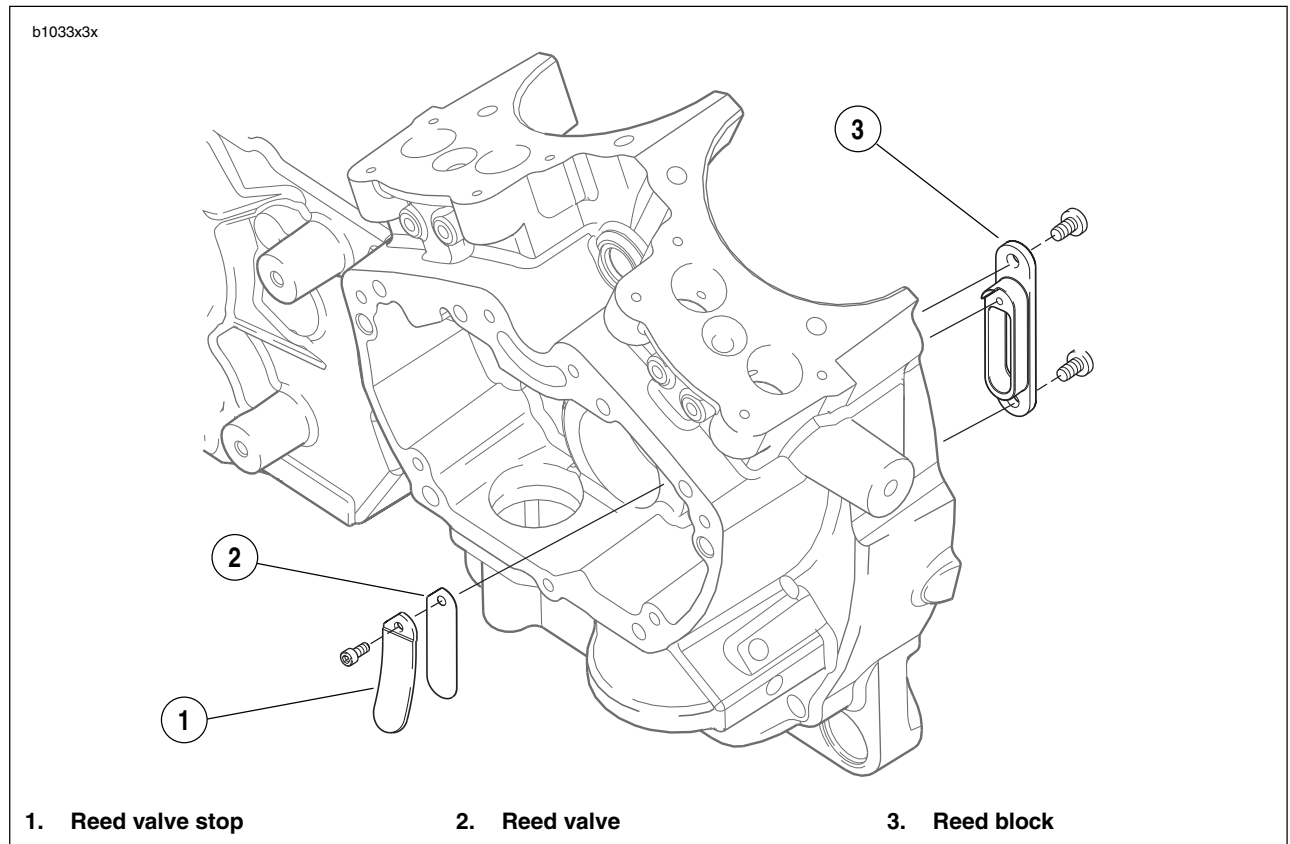
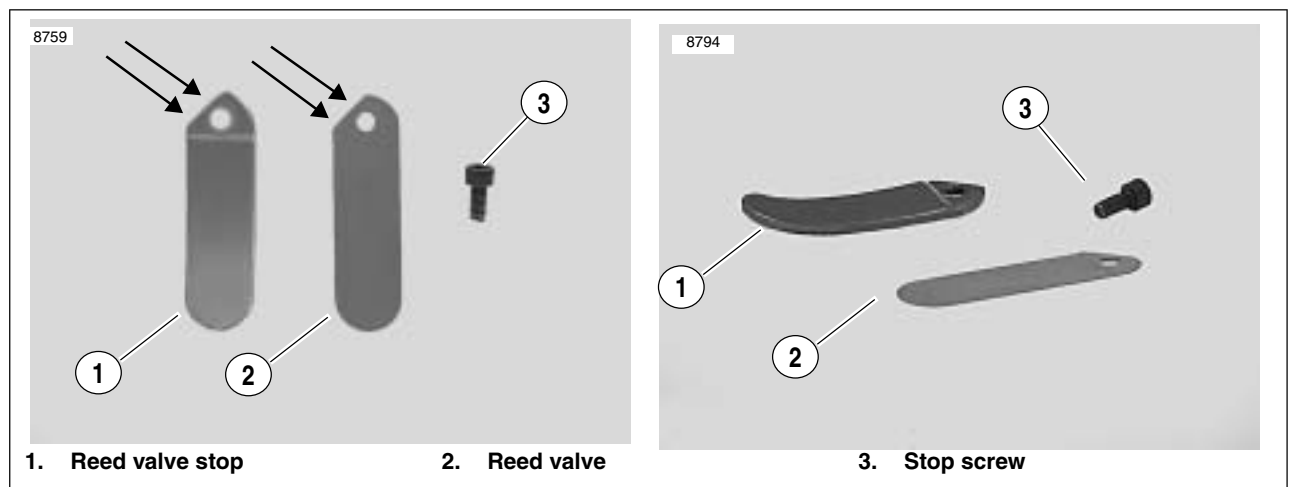

Figure 3-114. Reed Valve Assembly
Figure 3-115. Reed Valve Stop and Reed Valve
- See Figure 3-115. The reed valve (2) is what moves out with the downstroke and in with the upstroke of the pistons. The reed valve stop (1) limits the movement the reed valve (2). See 3.11 CRANKCASE BREATHING SYSTEM.
See Figure 3-115. When replacing the reed valve it is extremely important to ensure that both edges of the reed valve stop (1) and the reed valve (2) are properly aligned to prevent premature failure of the reed valve. When replacing the reed valve it is not necessary to replace the reed block. See Figure 3-114.